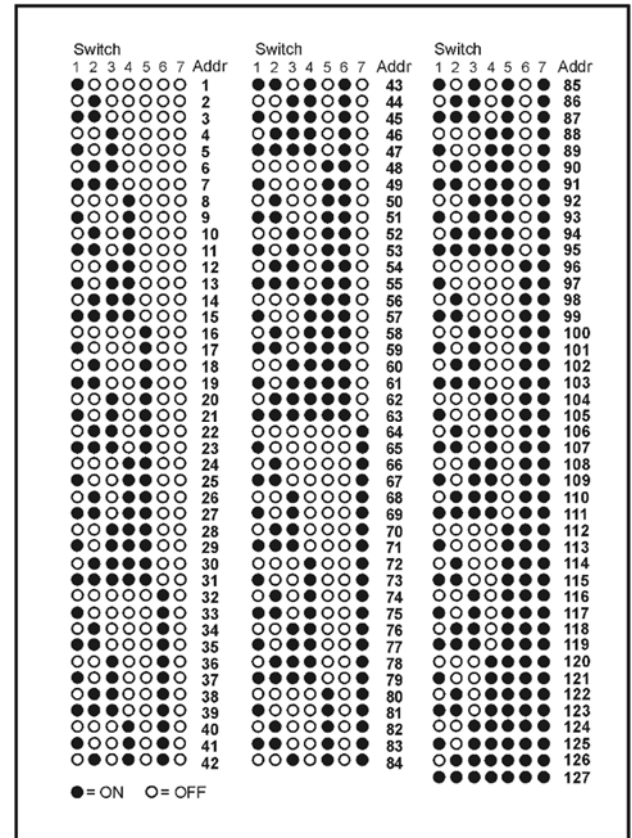

Fig 5
- Refer to the Address Chart (Fig 5) on page 3 for a quick reference on addresses.